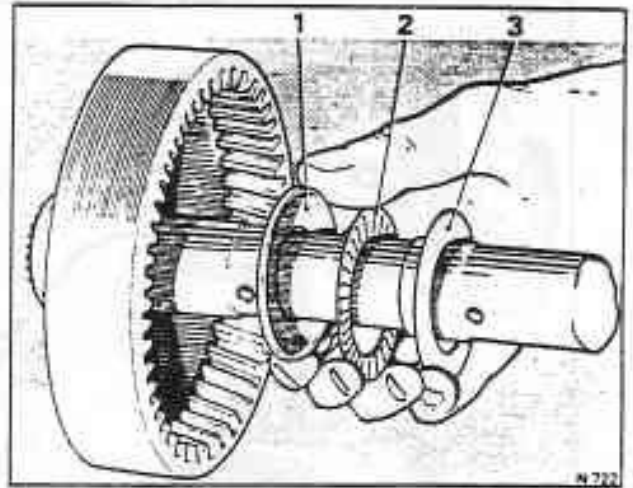

Fig. T19-15 Fitting the races and thrust bearing to the inner face of the rear internal gear
3. Fit the races and thrust bearing onto the inner face of the rear internal gear, retaining them with a smear of petroleum jelly (see fig. T19-15).